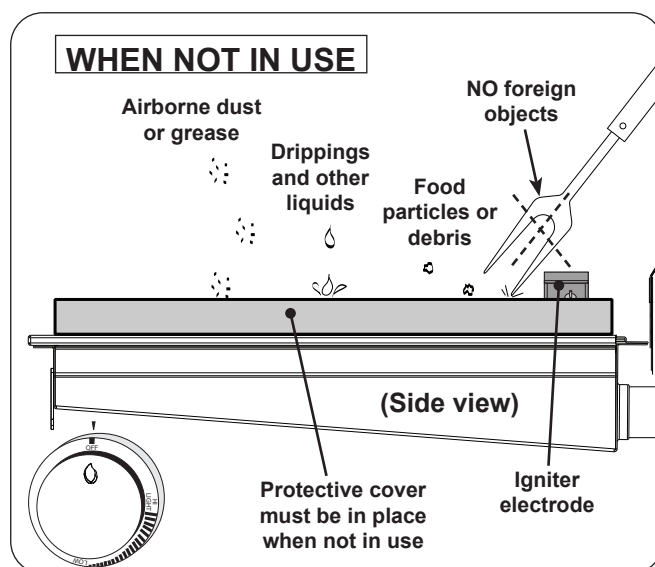

Fig. 42-2 Infrared burner - WHEN NOT IN USE
- When not in use, **always** cover the infrared burner with the stainless-steel cover. This protects the burner from drippings (from other cooking), water, airborne particles, and foreign objects (Fig. 42-2).
- Do not strike or scrape the ceramic portion of the burner as it may chip, crack, or break (Fig. 42-2).